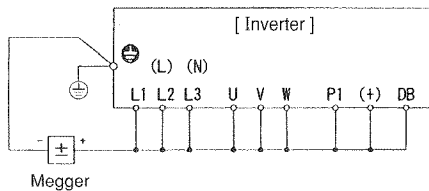

Fig.12-4-1 Megger test
(1) Main circuit
- ① Use a DC 500V megger.
- ② Disconnect all wires that are connected to terminal board of the main and control circuits and to external circuits.
- ③ Connect main circuit terminals L1, L2, L3 (L, N), P1, (+), DB, U, V and W with a common wire as shown in Fig. 12-4-1.
- ④ Carry out the megger test between the main circuit common wire and the ground terminal  only.
- ⑤ The condition is normal if the megger shows a resistance of 5MΩ or more.